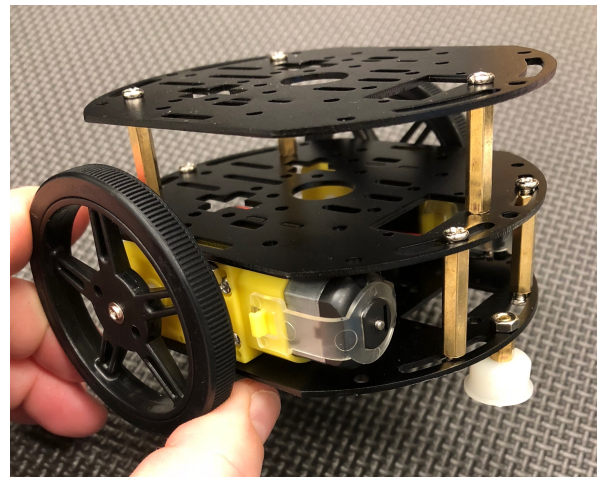

Figure 5. Robot assembled.
6. Connect the caster ball as shown in Figure 5.